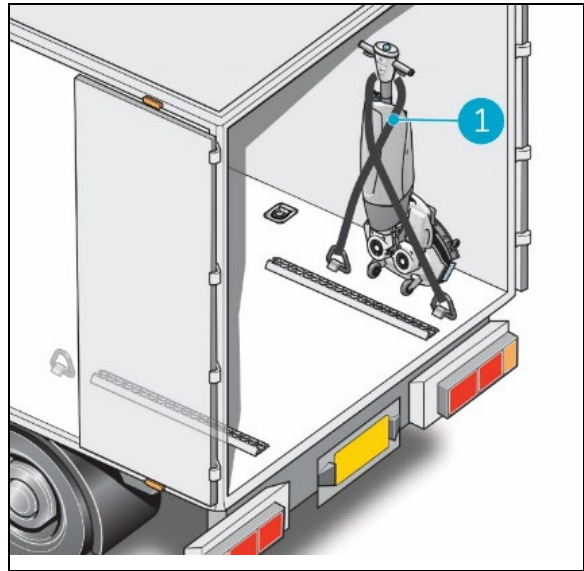

Figure 6
5. Secure the i-mop using a tension belt or another appropriate restraint (Figure 6, pos 1).